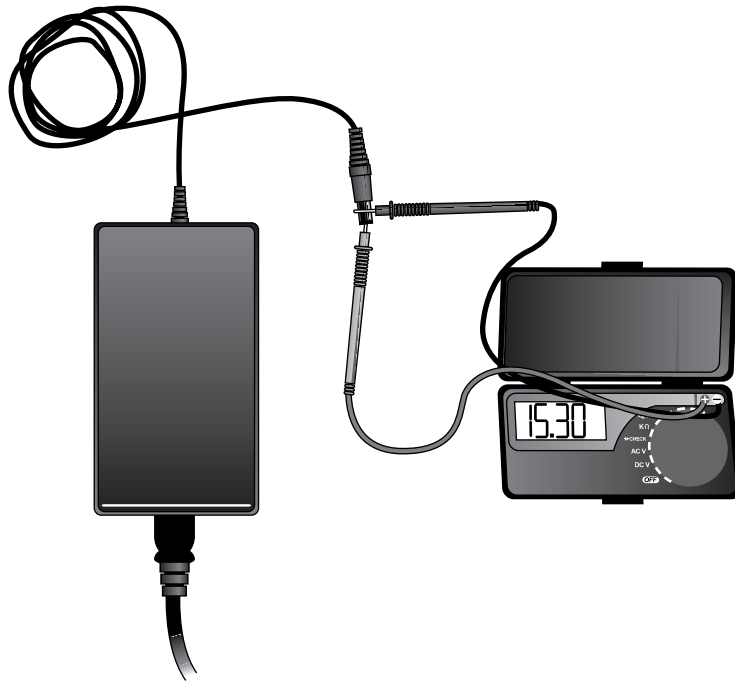

Figure 3.7 A typical digital multimeter tests a laptop AC adapter.
Some troubleshooting procedures require that you measure voltage and resistance. You take these measurements by using a handheld digital multimeter (DMM). The meter can be an analog device (using an actual meter) or a digital-readout device. The DMM has a pair of wires called *test leads* or *probes*. The test leads make the connections so that you can take readings. Depending on the meter's setting, the probes measure electrical resistance, direct-current (DC) voltage, or alternating-current (AC) voltage. Figure 3.7 shows a typical DMM being used to test the AC adapter on a typical laptop. In this particular example, I am testing an AC adapter that is rated for 15V output. As you can see, the DMM is reading 15.30V. The normal tolerance for voltage readings is plus or minus 5%, which in this case would be 14.25V through 15.75V. Therefore, the reading is well within that specification, meaning the adapter checks out as good.
range; the meter (refer to Figure 3.7) is a half-inch thick, weighs 3 1/2 ounces, and is digital and autoranging, as well. This type of meter works well for most, if not all, computer troubleshooting and test uses.